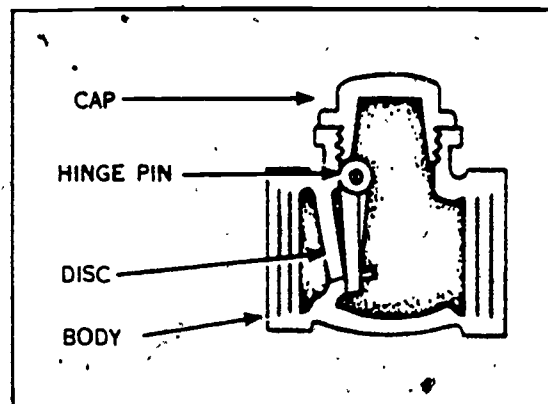

Figure 1-41. Cross section of a check valve.
**a. Swing check valve.** A swing check valve, of which a cross section is shown in figure 1-41, contains a hinged disc which seats against a machined seat in the tilted bridge wall opening of the valve body. The disc swings freely on its hinge pin in an arc from a fully closed position to one parallel with the flow. The fluid or gas in the pipeline enters below the disc. Live pressure overcomes the weight of the disc and raises it to allow a continuous flow. If the flow is reversed, pressure is exerted against the disc, forcing it to close and stop the flow.